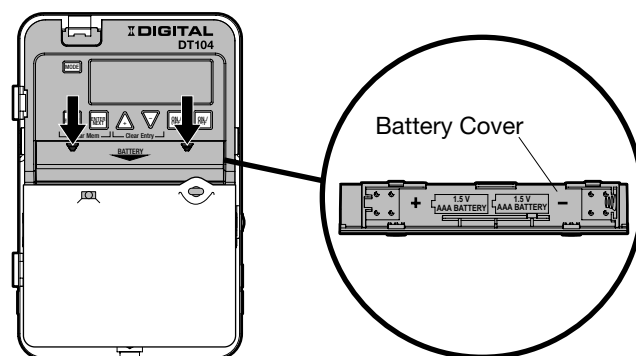

FIG. 6 Inserting the Batteries
1. Remove the battery case by sliding it down as shown by the arrows, then install two AAA alkaline batteries. Make sure the batteries are pointing in the direction shown in FIG. 6.